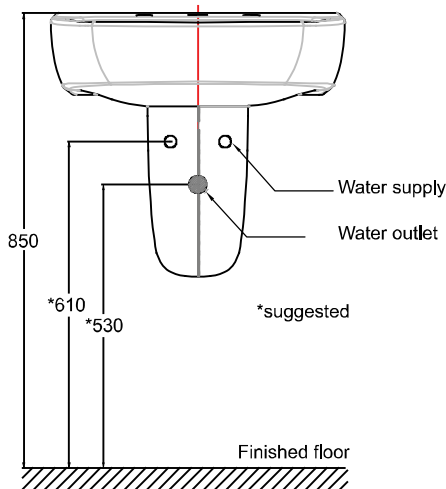

Fig. 1
- Fig.1 for installing with semi-pedestal(TF-0755)